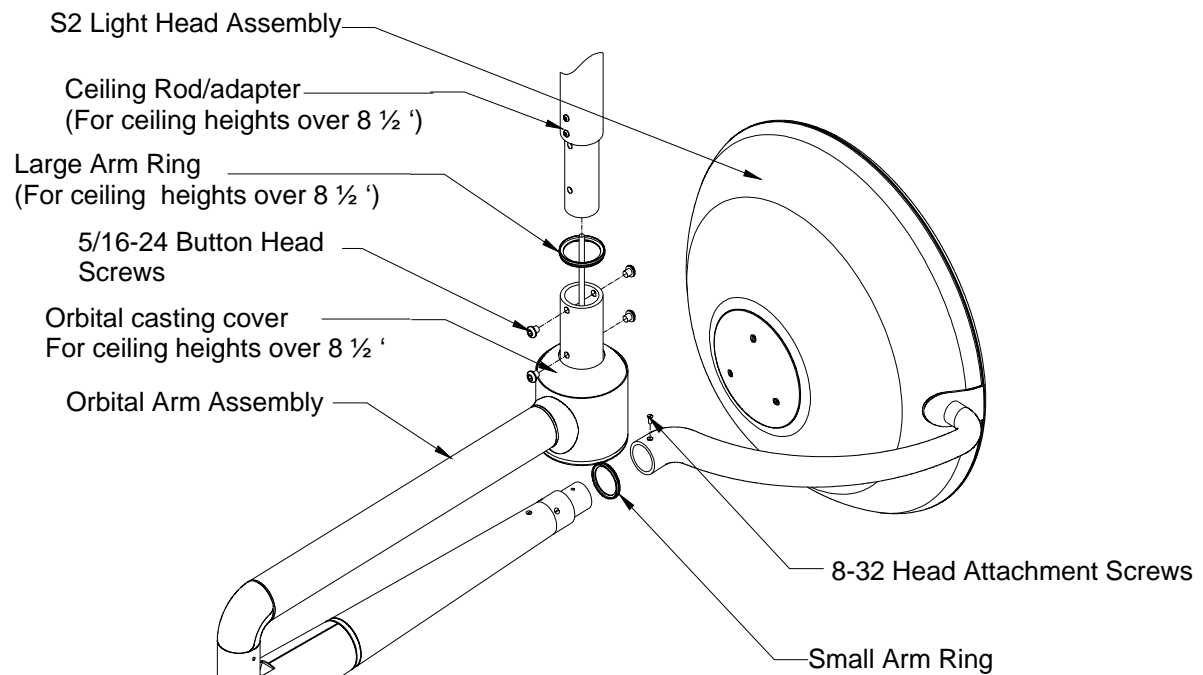

Figure 17
- Slide the head assembly over the shaft protruding from the arm and secure using two 8-32 flat head screws provided in the hardware kit.(See Figure 17).